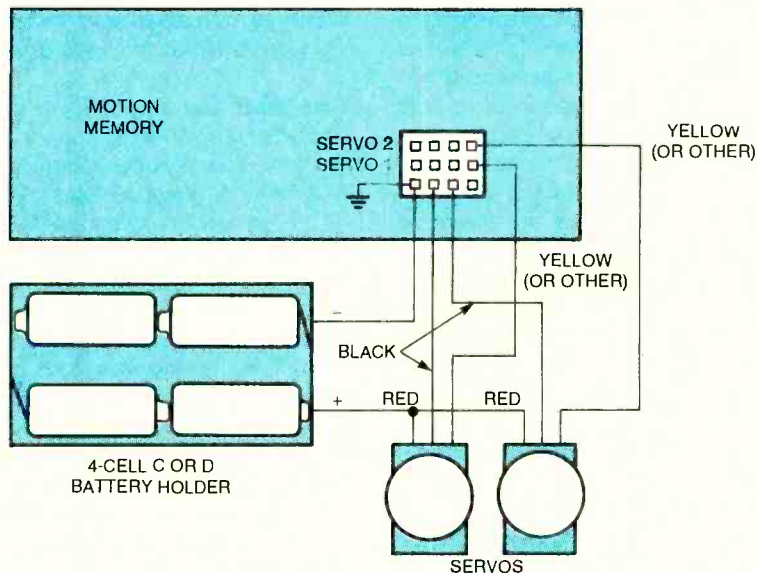

Fig. 5. To test the Motion Memory, plug a joystick into J1; afterward, connect a pair of servos to J2 (as illustrated here).
**Checkout and Use.** Plug a joystick into J1 and connect a couple of servos (one source for suitable servos is ACE R/C, 116 West 19 Street, PO Box 472, Higginsville, MO 64037-0472; Tel. 800-322-7121) to J2, as illustrated in Fig. 5. Put PLAY/RECORD switch S3 into the record position. The position of LOOP/ONE-SHOT switch S2 is not important. With everything connected, turn on the Motion Memory circuit and apply power to the servos. Their output shafts should immediately rotate to roughly the center of their range. Move the joystick. The servos should move in response. If they don't, turn off the power and re-inspect your work.